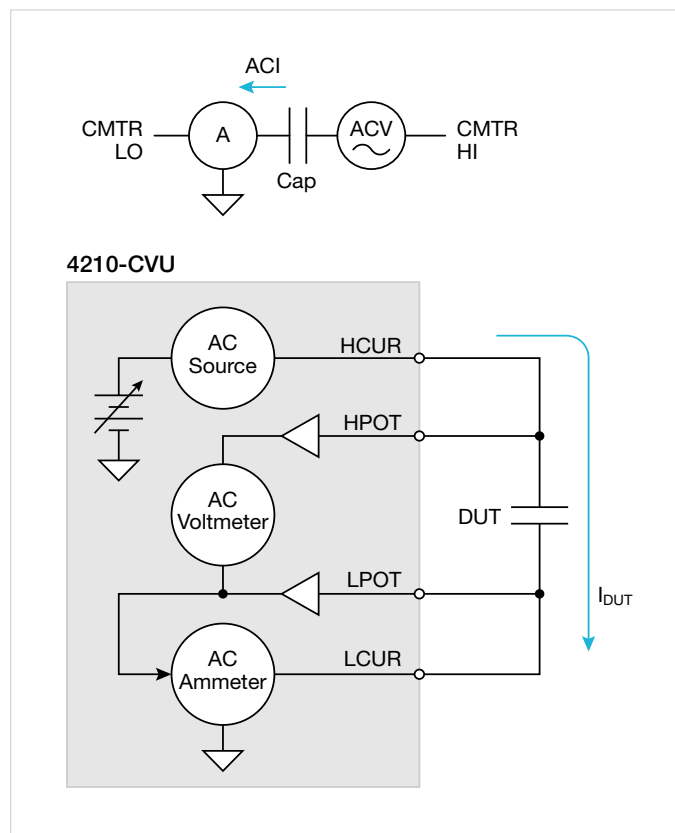

Figure 4: Setup for AC impedance measurements.
**Figure 4** illustrates how AC impedance meters characterize capacitance. AC impedance meters are usually called C-meters (CMTR). These meters consist of two parts, the high side, CMTRH, and the low side, CMTRL. The high side is connected to one side of the device, and it forces AC voltage (ACV) of known amplitude and defined frequency. Common frequency values in a production environment are 100 kHz and 1 MHz. The low side tries to enforce 0 AC voltage by supplying the required AC current to balance the bridge.